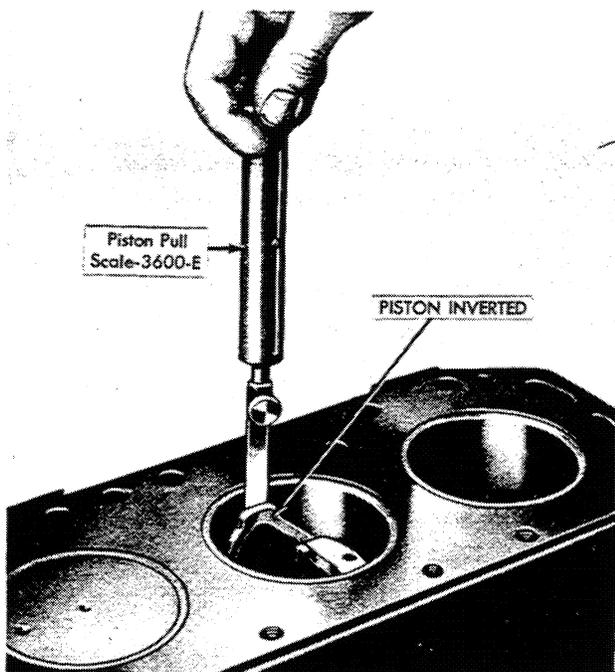

Figure 29
- Position the feeler ribbon on the side of the piston 90° from the piston pin hole. Invert the piston, then push the piston and feeler gauge into the cylinder so that the end is about 1/2" below the top of the block as shown in Figure 29. Keep the piston pin bores parallel with the crankshaft axis. Pull out the feeler gauge while noting the scale reading.